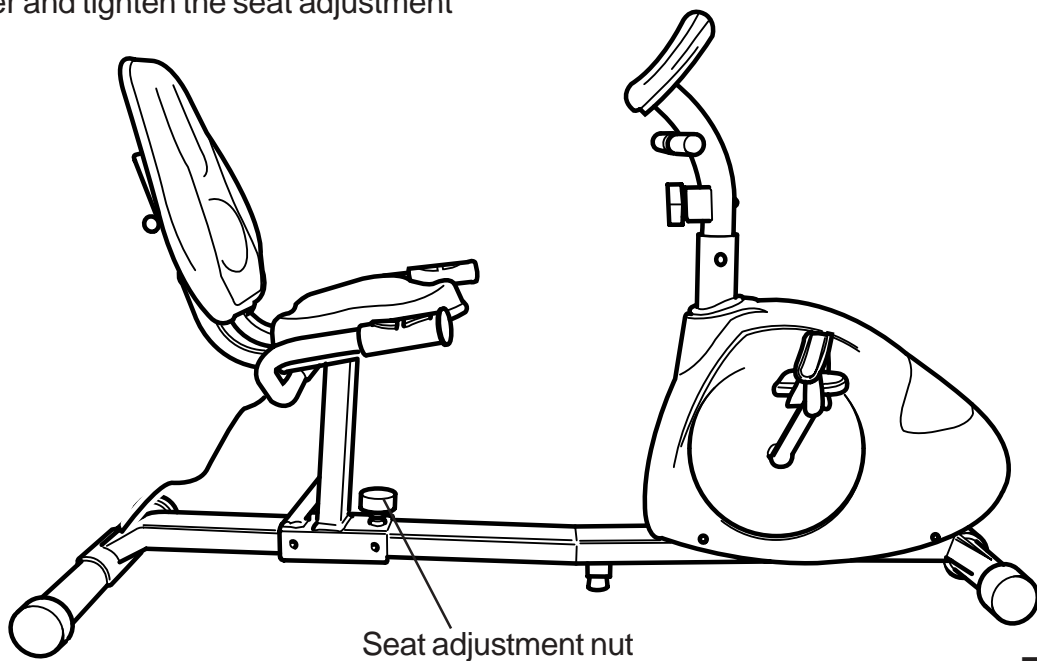

FIG 12
1. To adjust, loosen and lift the seat adjustment nut and adjust the seat to one of the 7 positions available (fig 12).